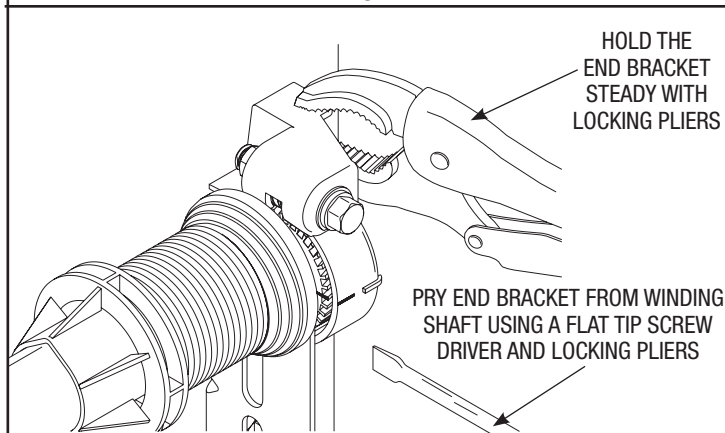

Fig. 7
Step 6: Holding the right hand end bracket steady with locking pliers, carefully pry the end bracket and drive gear off the winding shaft using a flat tip screwdriver (Fig. 7).
Step 7: Repeat Step 4 for the left hand side. Holding the left hand end bracket steady with locking pliers, carefully pry the end bracket off the winding shaft using a flat tip screwdriver (Fig. 7).